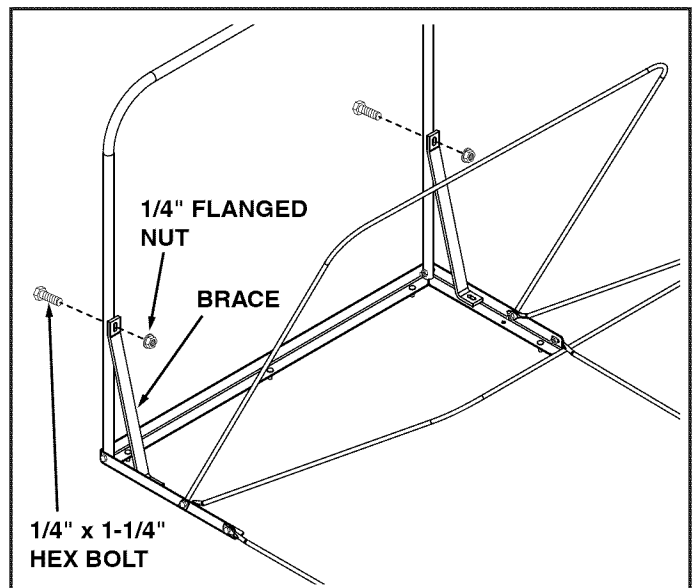

FIGURE 21
- Attach the braces to the front support tube using two 1/4" x 1-1/4" hex bolts and 1/4" flanged nuts. **TIGHTEN. Do not over tighten** and collapse support tube. See figure 21.